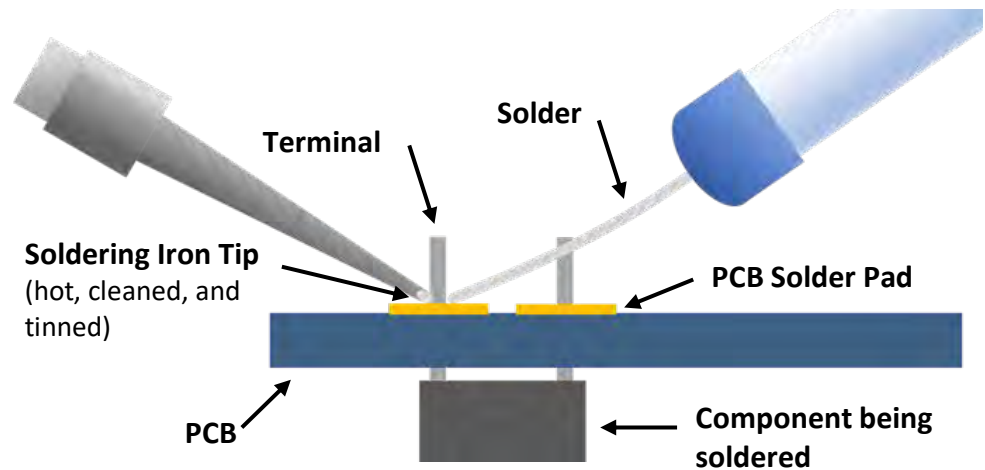

Figure 4
- ❑ Hold the soldering iron at a low angle to the PCB with the solder puddle on the tip touching the solder pad and the terminal of the component being soldered. (Figure 4)